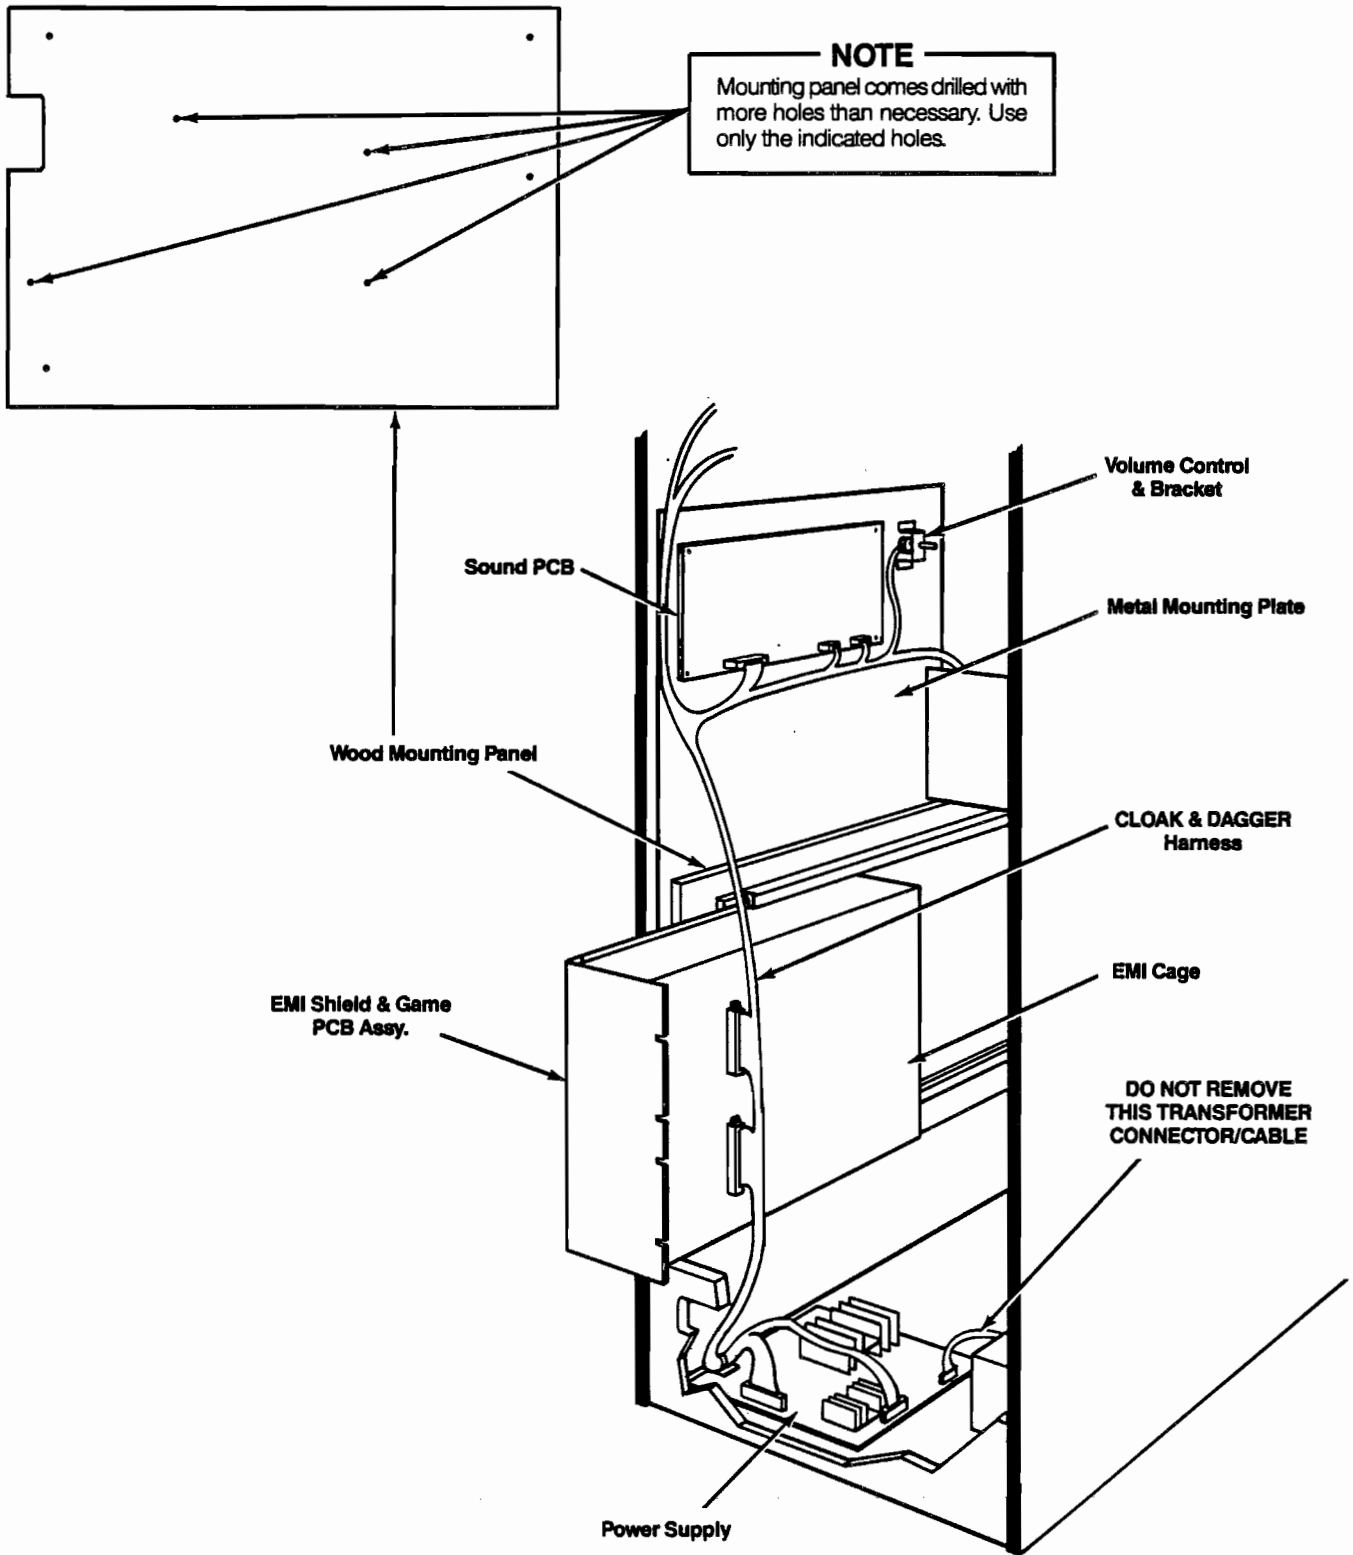

Figure 4 CLOAK & DAGGER Harness and EMI Cage Installation
- Power Supply Transformer Connectors (see Figure 4)
7. Unplug two of the three power-supply base connectors. BE SURE TO LEAVE THE TRANSFORMER CONNECTOR IN PLACE (see Figure 4).
Mount the wood panel included in the kit to the stand-offs on the cabinet wall with the four #8-32 x 1-inch screws and #8 split-lock and flat washers (see Figure 4).
2. Attach the EMI cage to the wood mounting panel with the #10 x 3/4-inch screw and the two #8 flat fiber washers (see Figure 4).
Install the CLOAK and DAGGER Retrofit Main Harness (see Figure 4)